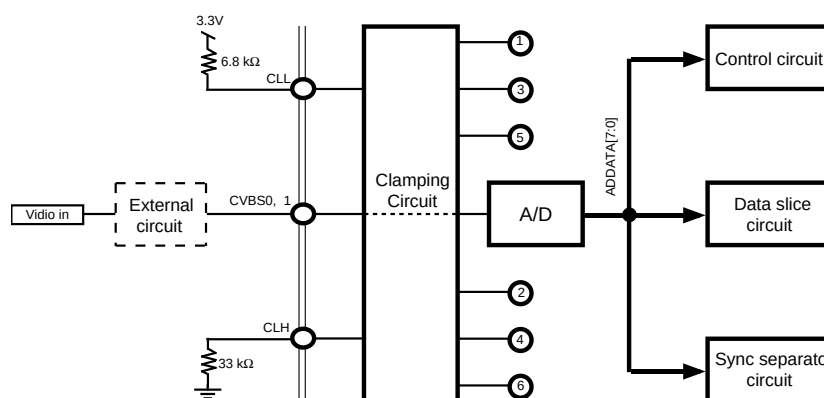

Figure 10-5 Clamping Circuit
2. The numbers (1) to (6) correspond to the numbers in figure 10-5.